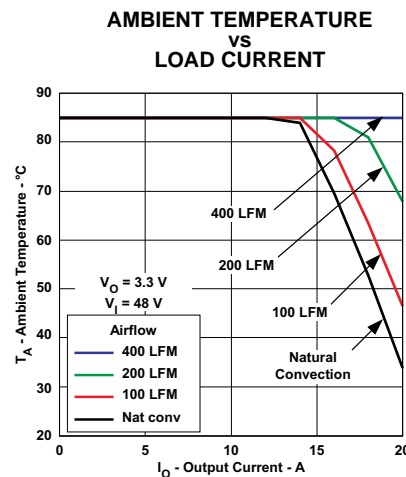

Figure 8.
- (2) The temperature derating curves represent operating conditions at which internal components are at or below manufacturer's maximum rated operating temperature. Derating limits apply to modules soldered directly to a 100-mm x 100-mm, double-sided PCB with 2 oz. copper. For surface mount packages, multiple vias (plated through holes) are required to add thermal paths around the power pins. Please refer to the mechanical specification for more information. Applies to Figure 8.